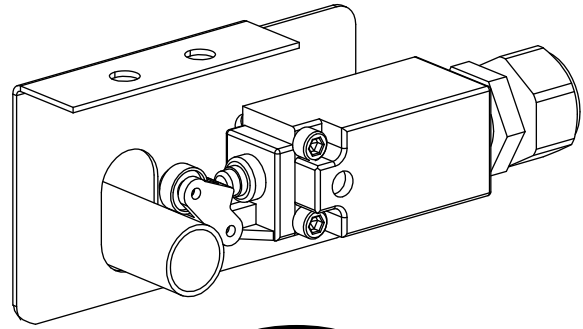

Fig. 9
**10a. Overhead Assembly:** Fig. 10: Adjust overhead to appropriate dimension. Install (4) 3/8"-16NC x 3/4" HHCS & 3/8"-16NC Flanged Locknuts, do not tighten. Slide Switch Box over switch bar ensuring knock out holes face the power unit column. Use (2) 1/4"-20NC x 3/4" lg. HHCS, 1/4" Flat Washer, and 1/4"-20NC Nuts to mount switch box to overhead, see Fig. 9.